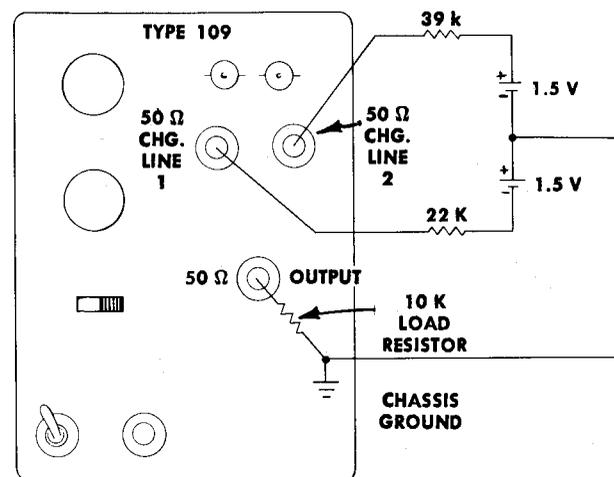

Fig. 6-2. Mercury switch tester circuit connected to the Type 109.
- (6) One mercury switch tester constructed similar to the one shown in Fig. 6-2. Use the following parts:
- b. Connect the leads from the mercury switch tester to the Type 109 connectors as shown in Fig. 6-2. Use care when inserting the banana plugs into the connectors as explained previously.